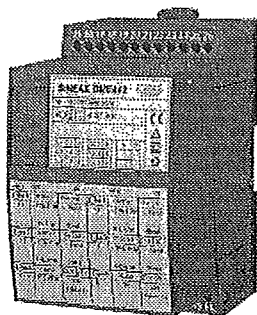

Fig. 1
2. Scope of supply (Figs. 1, 2 and 3)
Transducer (Fig. 1)